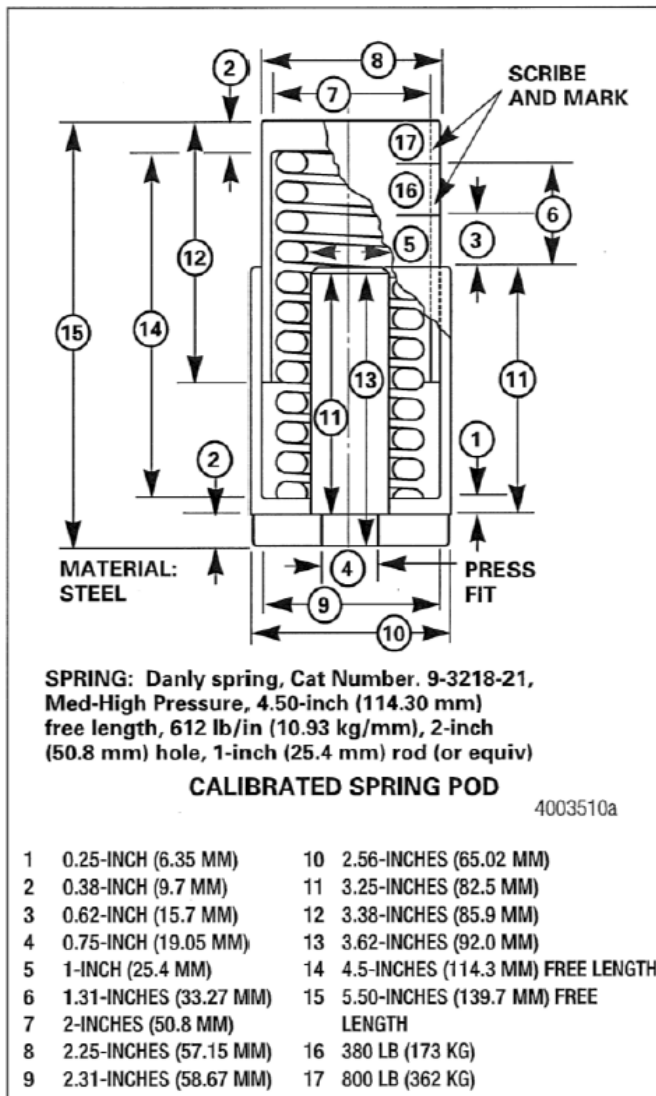

FIGURE 4.5.2
- Apply force from the arbor slowly to observe that slippage occurs between the 380 and 800 lb. (173 and 362 kg) markings on the spring pod. See Figure 4.5.2